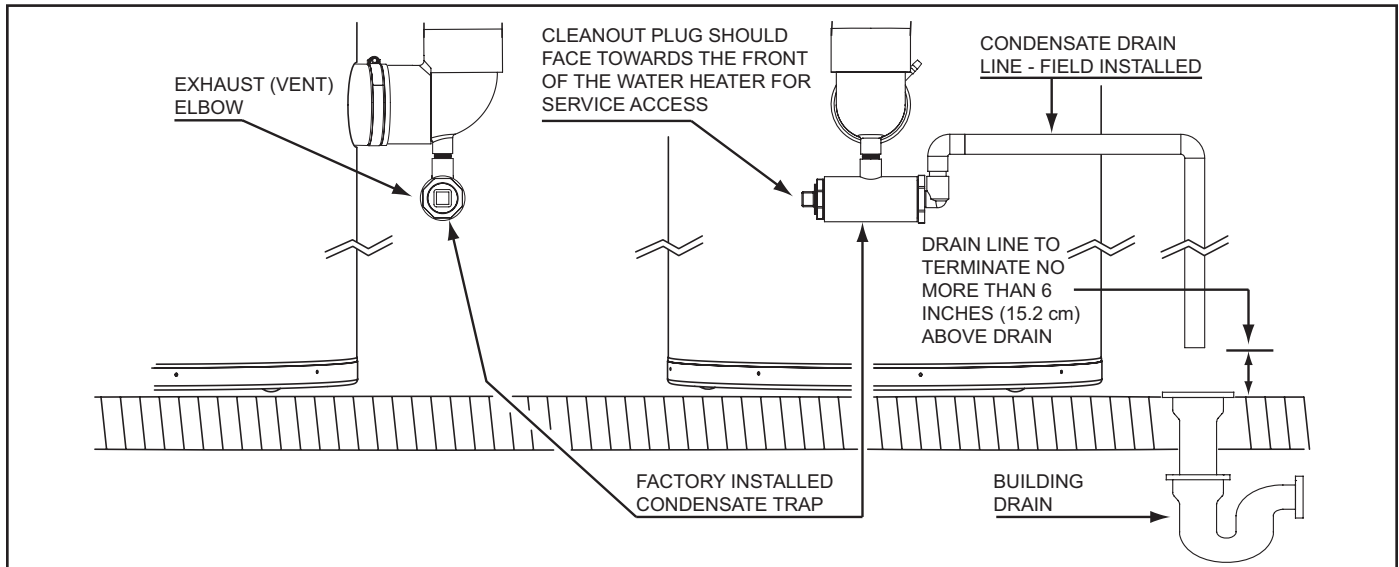
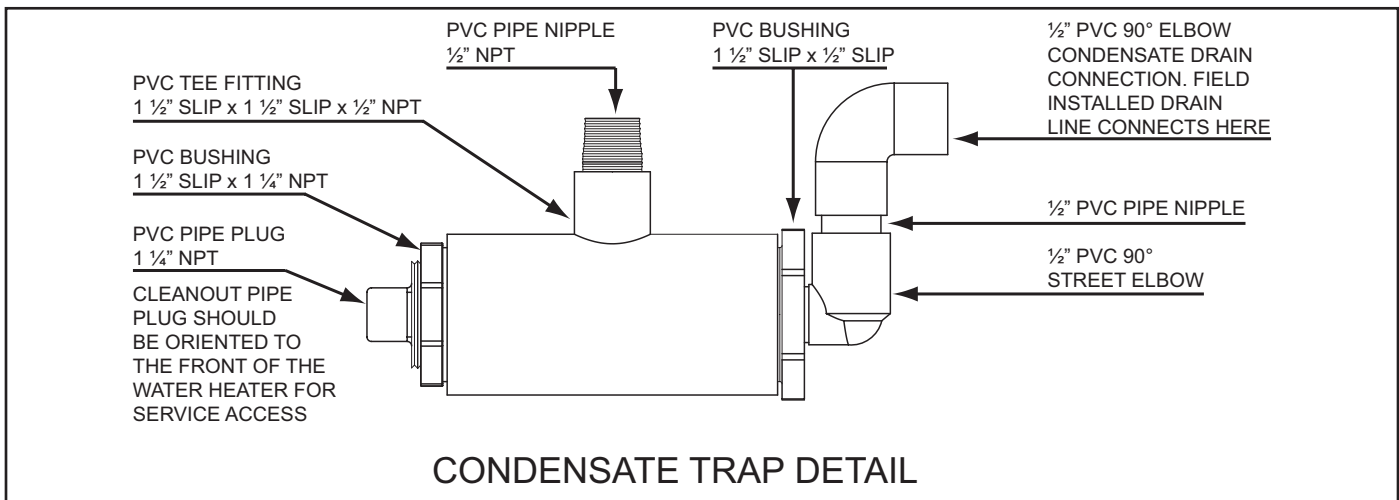

Figure 46
Figure 47
2. Install a 1/2 inch PVC condensate drain line between the condensate drain connection on the Condensate Drain Trap and a suitable building drain, see Figure 46 and Figure 47.
3. Terminate the condensate drain piping with an elbow above the drain. Ensure that any discharge will exit the condensate drain line no more than 6 inches (15.2 cm) above a suitable building drain, or external to the building, see Figure 46.
4. Ensure the condensate drain line is not elevated above the condensate drain connection on the trap, see Figure 47.